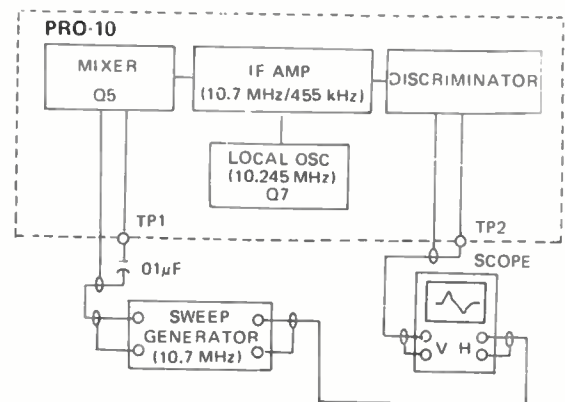

FIGURE 3. IF SECTION ALIGNMENT TEST EQPT. HOOK-UP
- Step 1: Connect the instruments as shown in Figure 3.